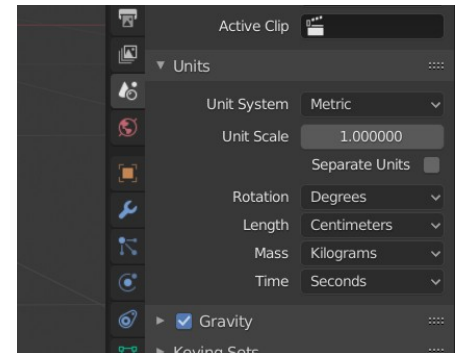

Figure 15
- 3) Open the **Scene Properties** tab from the **Properties Editor** panel and set the Unit System to **Metric**, Rotation to **Degrees** and Length to **Centimeters** (Fig. 15).